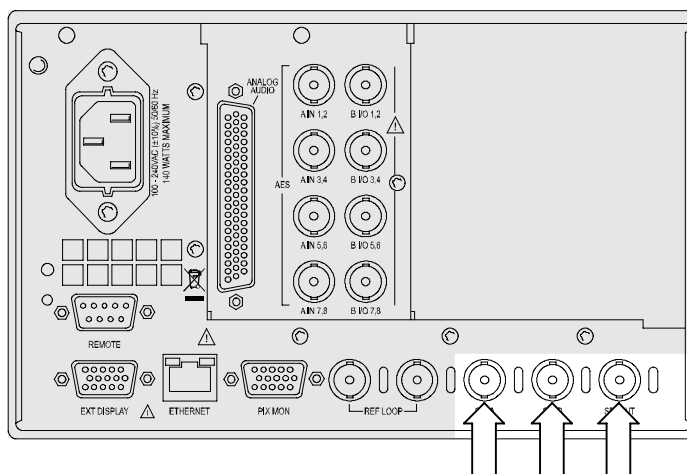

Figure 6: Removing the hex nuts and washers from the BNC connectors
- a. Remove the hex nuts and washers from the three BNC connectors on the I/O Mezzanine module. See Figure 6.